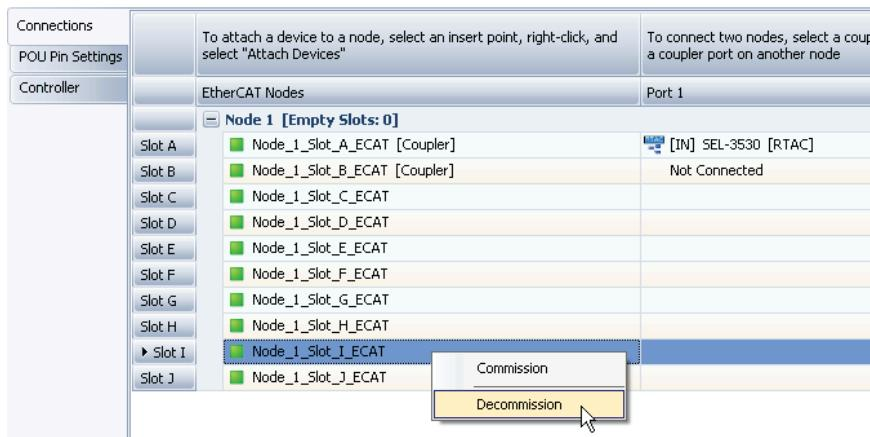

Figure 2.23 Decommissioning a Module
- Step 3. Navigate to the **Connections** tab within the editor. As *Figure 2.23* shows, right-click on the module you want to replace and select **Decommission**. Decommissioning removes all network settings from the module so that you can use it as a spare for another system at a later date.